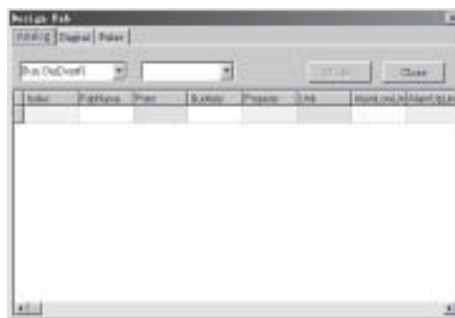

Fig. 4-10 FAB Defining Dialogue Frame
Step 1. Click **Monitor** **Design FAB** or the fast icon  by the mouse, the system will display the **FAB Definition** interface as in Fig. 4-10.